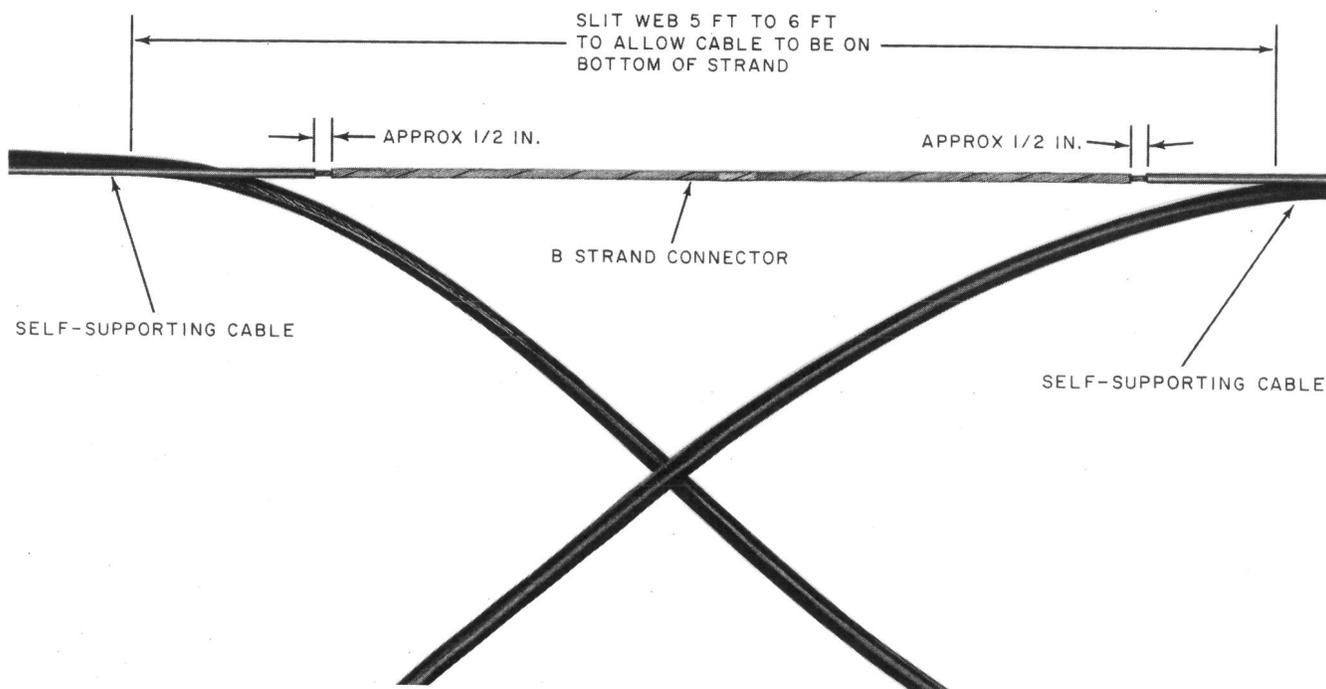

Fig. 8—Preparing Self-Supporting Cable
4.04 Prepare strand and cable for splicing as described in Sections 627-230-208 and 627-700-014. Figure 8 shows preparation for installation of 6C1 or 6D1 cable closure on self-supporting cable.